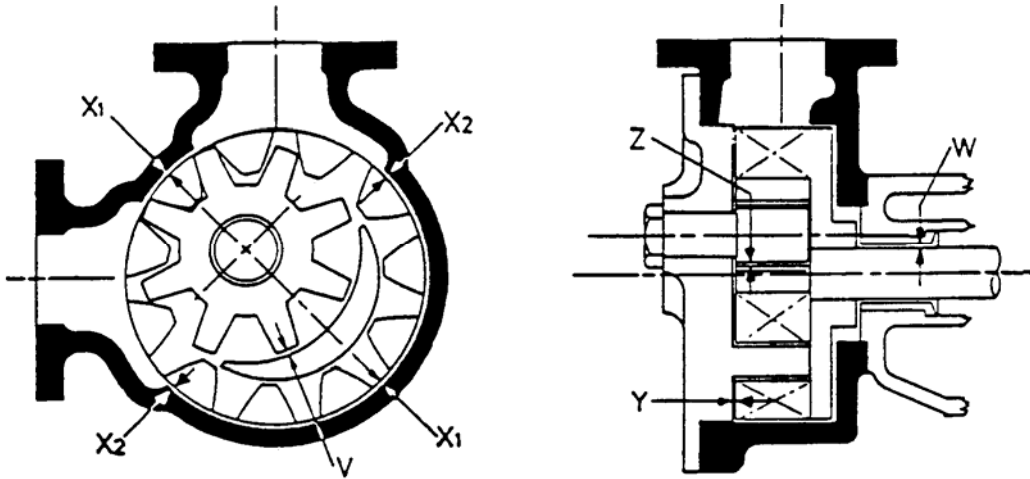

Figure 7
- iii) Lack of Bearing support at drive endTo measure clearance, insert feeler gauge at two opposite measurement points 'X1'. Add the two clearances together. This will give the diametral clearance 'X' for the two points. Repeat this procedure for the other two measurement points 'X2'. Refer Figure 7